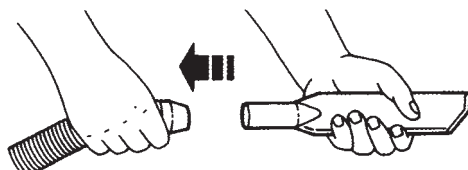

Figure 11b
4. Insert any Attachment directly into the Hose Collar. (See Figure 11b.)